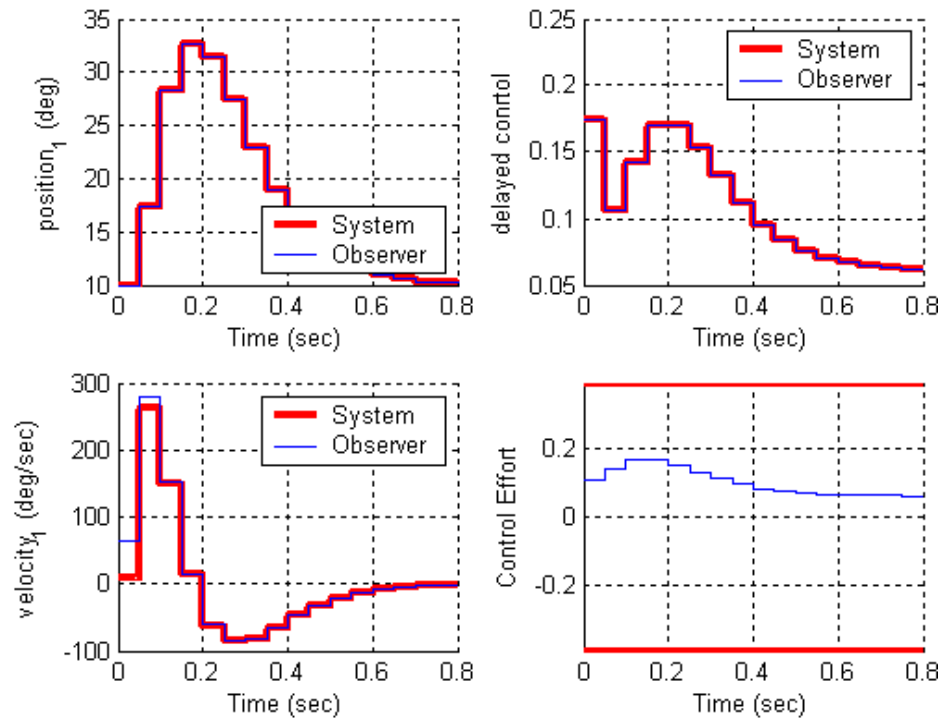

Figure 2. Results for problem **1c**.
c) Now assume the same initial conditions as in part a, but both the position of the disk and the delayed input signal are known. The observer pole is placed at 0.3 and the sampling interval is still at 0.05. For a 10 degree step input you should get the graph shown in Figure 2. Turn in your plot.